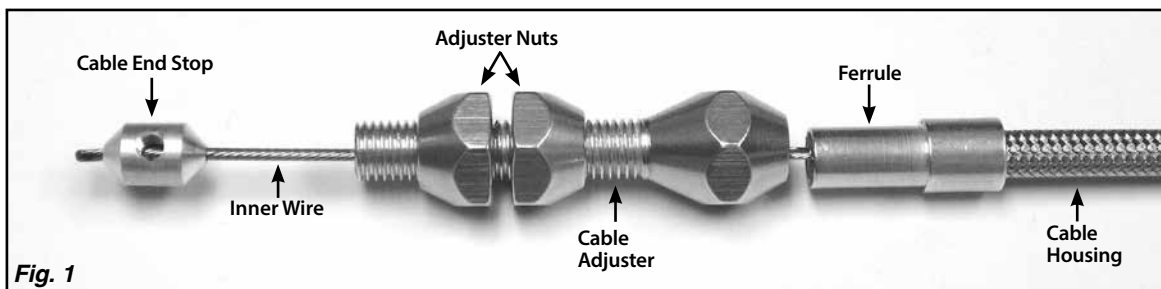

Fig. 1
**Step 1: ALL:** Remove the cable end stop and cable adjuster from the end of the inner wire. If the cable has a black universal housing, remove the ferrule. If the cable has a stainless steel housing, **DO NOT** remove the ferrule. **Fig. 1**